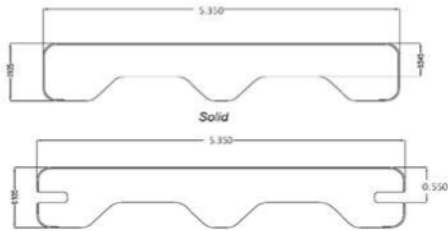

FIGURE 1—FIBERON® GOOD LIFE™ WEEKENDER AND ESCAPES CROSS-SECTION
Fiberon® PE Decking has a core which is a composite of polyethylene (PE) and wood fiber, co-extruded with a high density polyethylene (HDPE) capstock. The decking is available in a variety of cross-sections having a nominal size of 1 inch by 6 inches (25.4 by 152 mm). The deck boards are available with square edges or with longitudinal grooves along each side of the board. These grooves are milled into the boards after the extrusion process for use with hidden fastening systems. See Table 1 for detailed product descriptions. Refer to Figures 1 through 4 for product cross-sections.